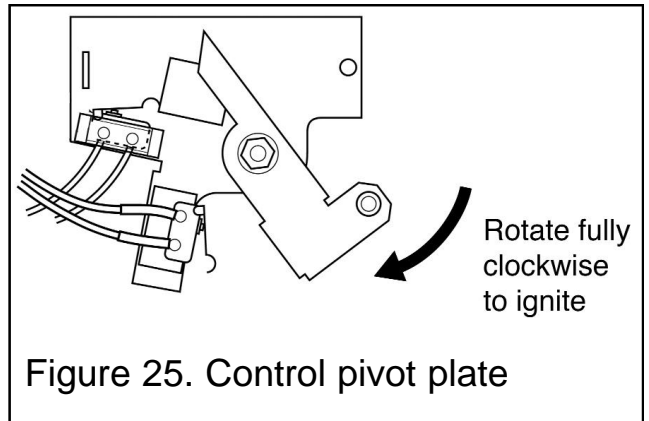

Figure 25. Control pivot plate
2. Rotate the control pivot bracket clockwise as far as it will go and hold in this position (See figure 25). This should close the ignition circuit and simultaneously open the gas tap allowing the gas to flow to the pilot. Wait a few seconds while the air is purged. The electronically generated sparks should light the pilot. The pilot should then light the main burner at its low setting. There may be a delay of up to four seconds between the pilot lighting and ignition